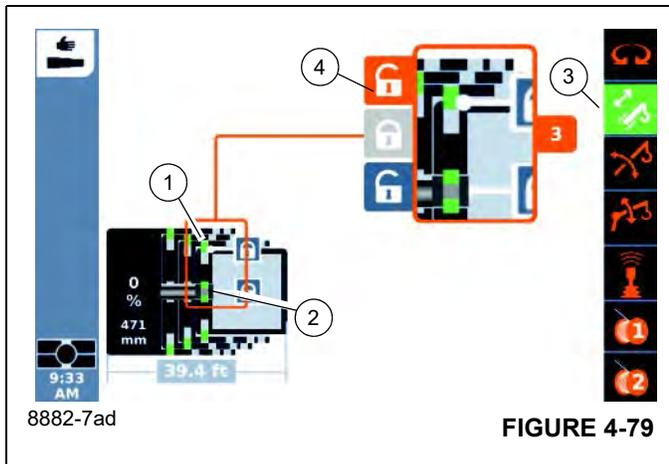

FIGURE 4-79
- Telescoping mechanism enabled – symbol (3), (Figure 4-79) green.
- Telescopic section locked – symbol (1), (Figure 4-79) green.
- Telescoping cylinder locked – symbol (2), (Figure 4-79) green.
Select the symbol (4), (Figure 4-79).